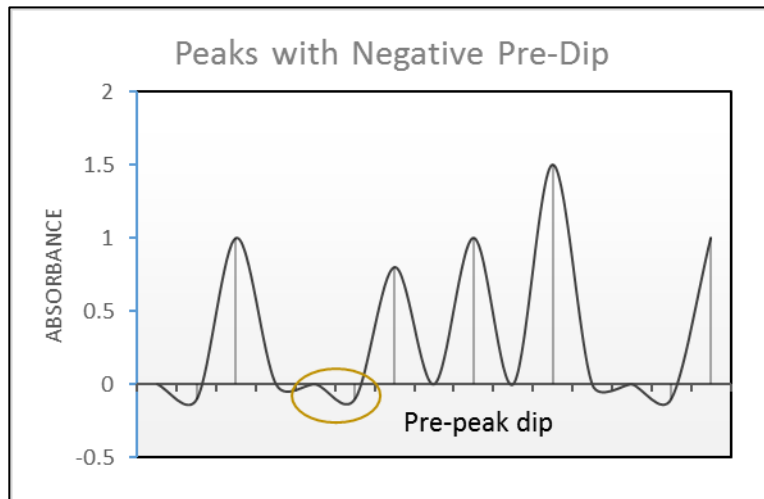

Figure 4.42: FIAgram with pre-peak dip
**Solution 6:** If samples have been acidified as a preservation step, the pH in the reagent system will change. This pre-peak dip can be overcome by adding a proportional amount of acid to the DI water carrier, so that the pH of the mixture of reagents matches the pH of the sample matrix. See Figure 4.42 for an example of pre-peak dips.